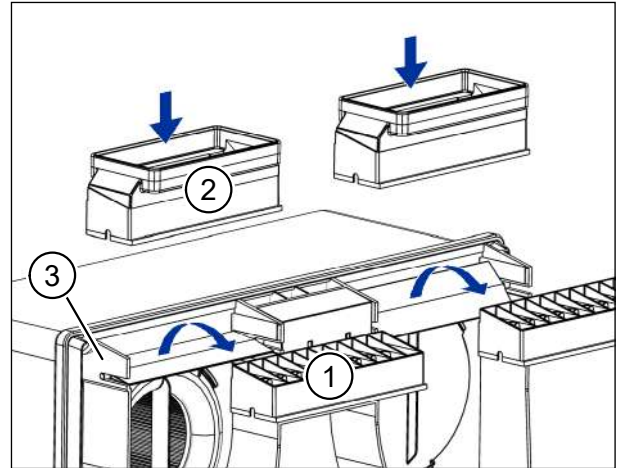
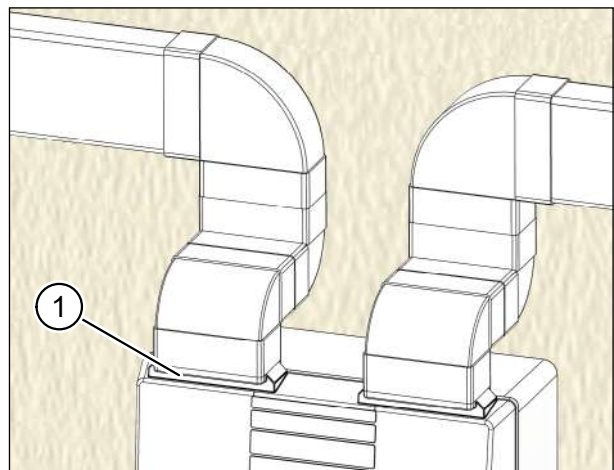

Fig. 39: Fitting the adapter (U2 adapter kit)
Fig. 49: Connecting flat ducts to the ventilation unit
- ▶ Lift up the two air flap frames (item 1 in Fig. 39) which are seated in the ventilation unit by default.
- ▶ Insert the two adapters (item 2 in Fig. 39) from the U2 adapter kit into the holders (item 3 in Fig. 39) on the ventilation unit, as shown in Fig. 39.
- ▶ Remove the air flap frames (see description and Fig. 39 in section 11.7.3.1 on page 37).
- ▶ Insert the duct adapters (item 1 in Fig. 49) into the ventilation unit (see description and Fig. 39 in section 11.7.3.1 on page 37).